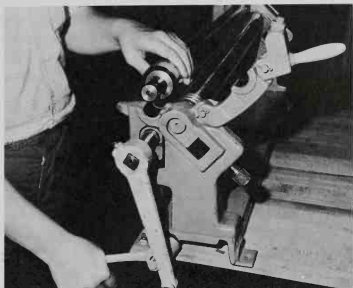

Fig. 5-27. Removing a cylinder from the forming rolls.
5. Remove formed cylinder from rolls, Fig. 5-27.